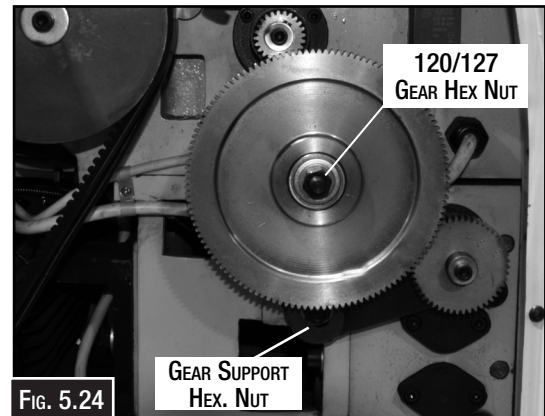

FIG. 5.24
4. While holding the 120T/127T gears, loosen the arm by undoing the gear support hex nut and slowly let the gears pivot down and away from the upper top gear, as illustrated. (Fig. 5.24)